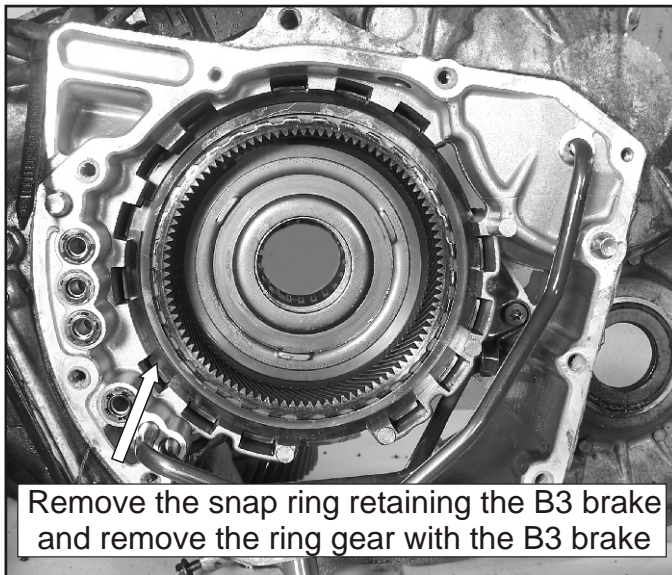

Figure 79
28. Remove the snap ring retaining the B3 brake in the case. Pull the ring gear forward to remove the B3 brake assembly, as shown in Figure 79.